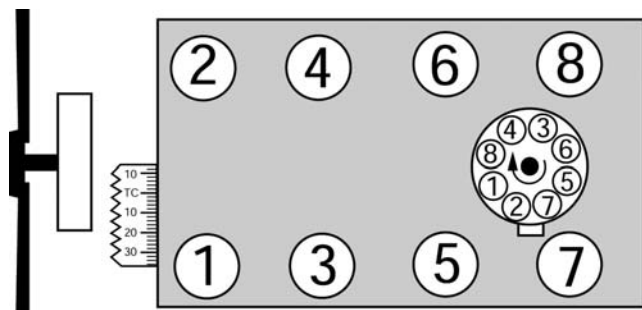

Figure 1 - 396-454 C.I.D. Chevrolet V8
10. Remove distributor cap and wires, rotate engine until rotor points towards number 1 terminal in cap and pointer on front cover is on top dead center (TDC) and remove distributor (**See Fig. 1**). Make a note of the approximate position of the distributor housing in relation to the manifold to assist in getting the distributor properly located during re-installation.
- A. Turn the engine over in direction of rotation until the No. 1 intake valve closes and continue until the pointer on the front cover is approximately five degrees (5°) before top dead center (BTDC) (**See Fig. 1 for firing order**).